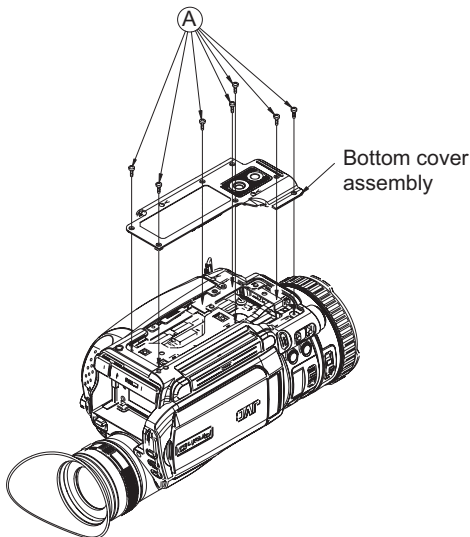

Fig.1
3.1 Removing the bottom cover assembly (See Figure 1)